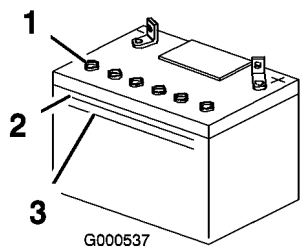

Figure 29
1. Look at the side of the battery. The electrolyte must be up to the **upper** line (Figure 29). Do not allow the electrolyte to fall below the **lower** line (Figure 29).
3. Remove the vent caps from the battery (Figure 29).
4. Slowly pour distilled water into each battery cell until the electrolyte level is up to the Upper line (Figure 29) on the battery case.
5. Wait five to ten minutes after filling the battery cells. Add distilled water, if necessary, until the electrolyte level is up to the Upper line (Figure 29) on the battery case.